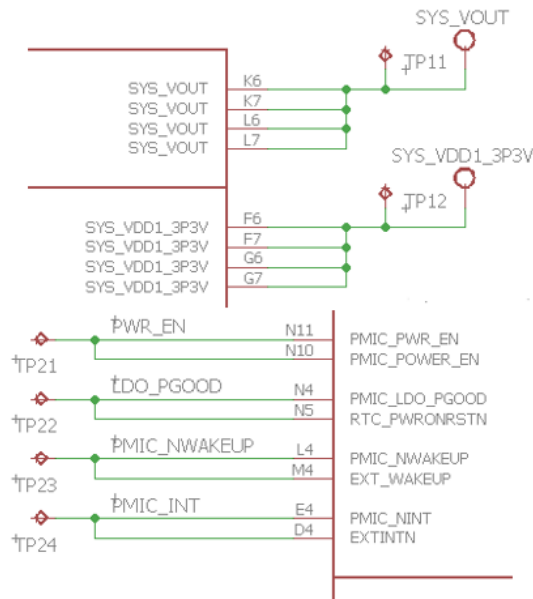

Figure 3: Example test points for signals involved in bootup and power rails
- If there is space in layout, put test points on each power rail and each signal between the PMIC and AM335x processor. This will provide good visibility for board debug during bring-up. An example is shown in Figure 3. A list of recommended pins and signals are give below: